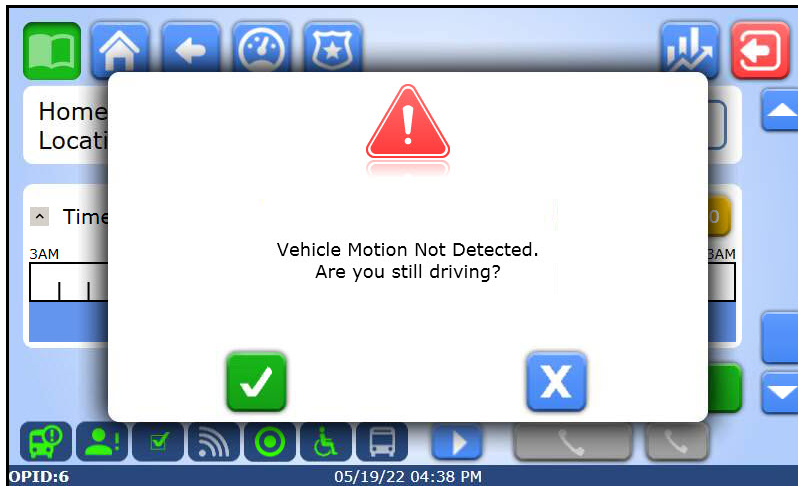

Figure 3.10 — Stationary Vehicle Popup
- Stopping the vehicle for a configured amount of time changes your status from **Driving** to **On Duty**. After a few minutes of no vehicle movement, a popup asks you to indicate whether you are still driving or not (Figure 3.10).